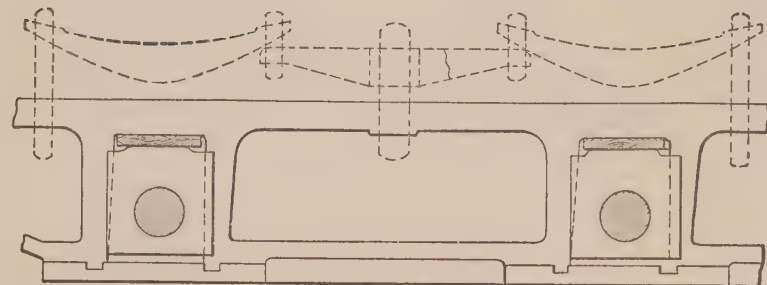

Fig. 202. Broken Springs.
A. See page 342 ; also figures 202 and 203.
A. See page 343; also figure 202.